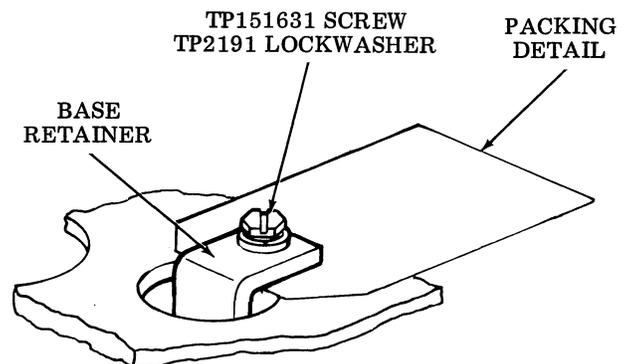

Figure 8 - Base Retainers
4.01 Remove the 6-40 screws from the two base retainers (Figure 8). **DO NOT REMOVE THE BASE RETAINERS.** Remove packing detail between base and pan. When packing detail is removed, vibration mounts will push the base against the base retainers. When installed, the weight of the typing unit will restore clearance between base and base retainers.